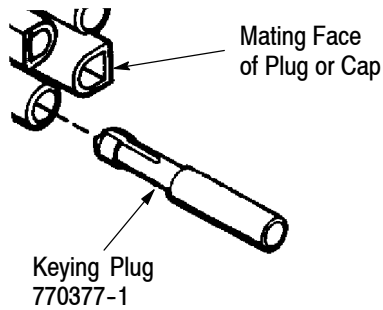

Figure 7
2. Align split, tapered end of plug with contact cavity. Insert plug straight into cavity until it snaps into position as shown in Figure 7.